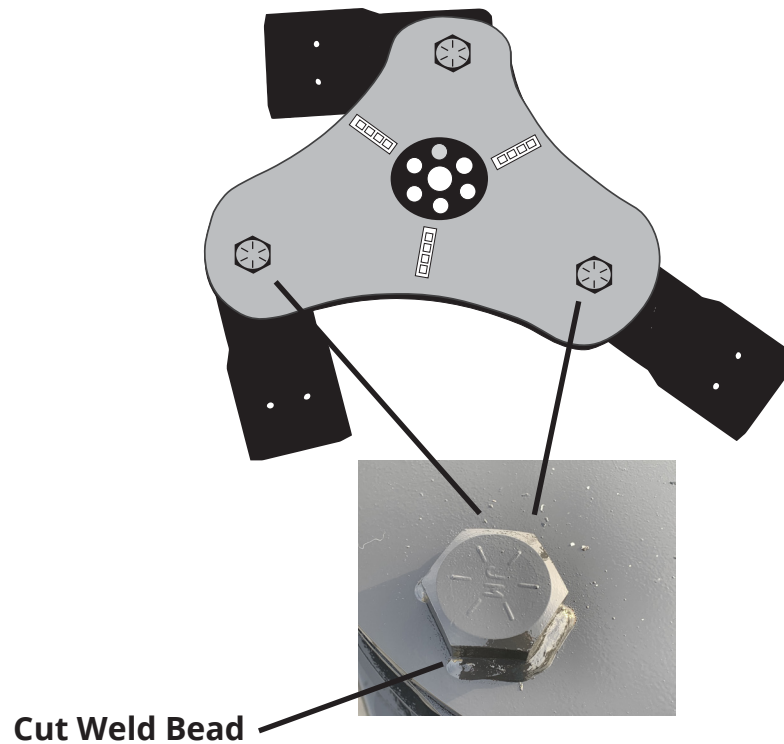

Figure 4.6a - Bolt Shank Removal from Blade Holder
2. Carefully cut the welded bead around the bolt head to allow the bolt to rotate. DO NOT cut into the blade holder (see Figure 4.6a on next page).